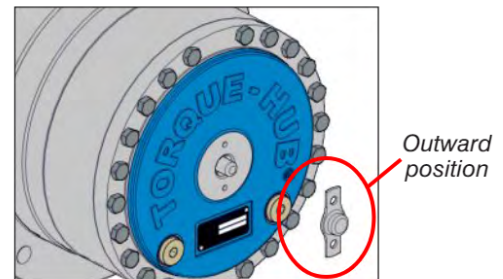

Figure 21 Disengage cap - outward position
- b. Remove disengage cap and rotate to outward position (refer to Figure 21).